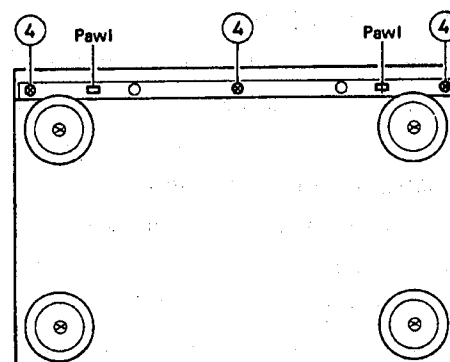

Fig 2 - 2
1. Remove one screw ③ retaining the shield plate to DECK B side on main board.
2. Remove two screws ⑤ or two screws ⑥ from the corners of the mechanism.(see Fig 2 - 5)